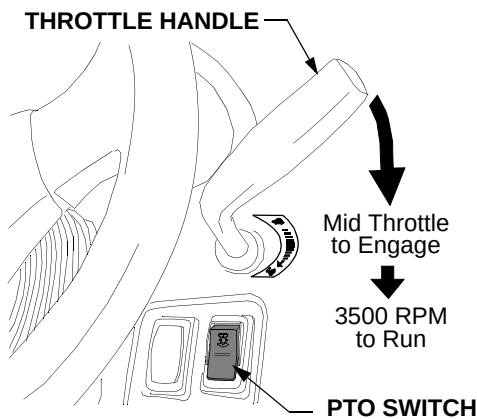

Figure 18
- Move the throttle handle to the mid throttle position. See Figure 18.
- Push the *top* of the PTO switch downward to engage the PTO (See Figure 18). The PTO light on the instrument panel will come on.